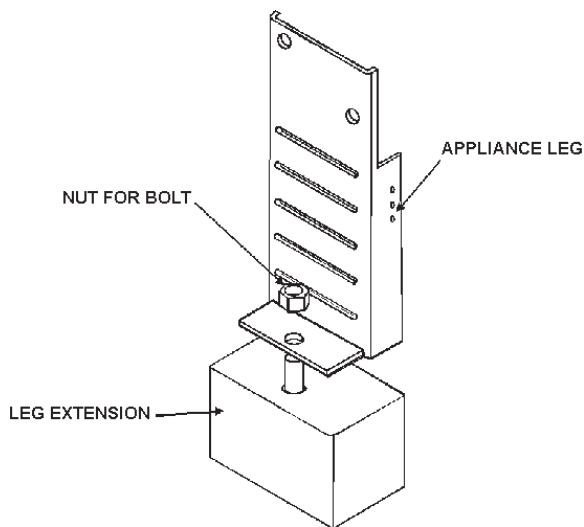

FIGURE 7.
4. Front of leg should line up with front of leg extension as shown in Figure 7. to make sure weight of unit is distributed through the leg extension.